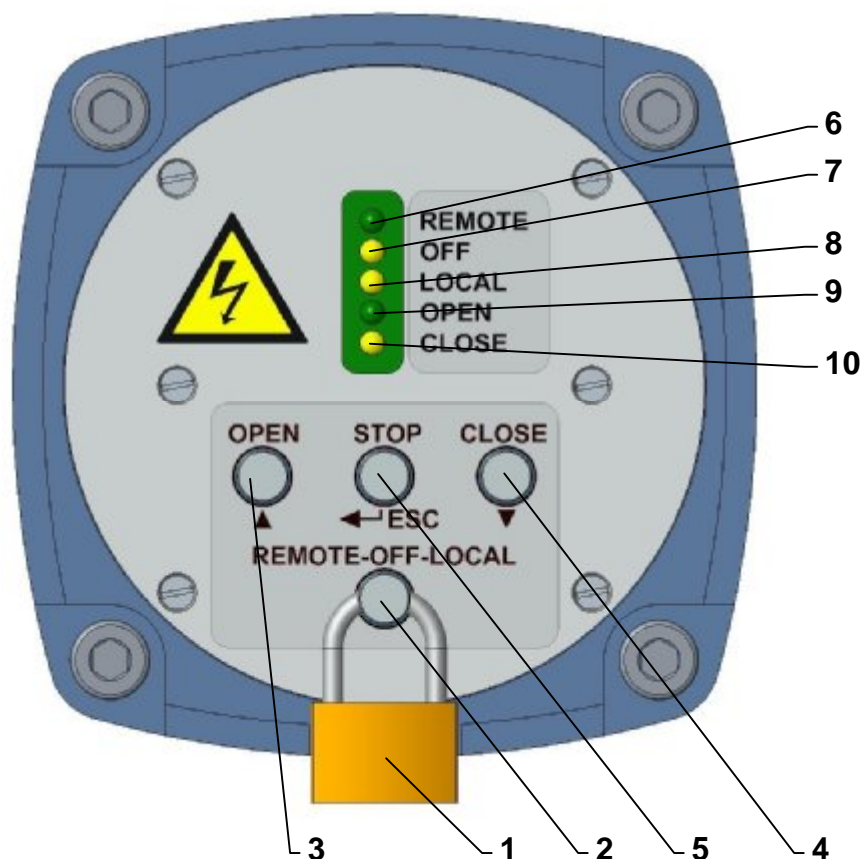

Fig.. 15
4.10 Electric local control (Fig.15)